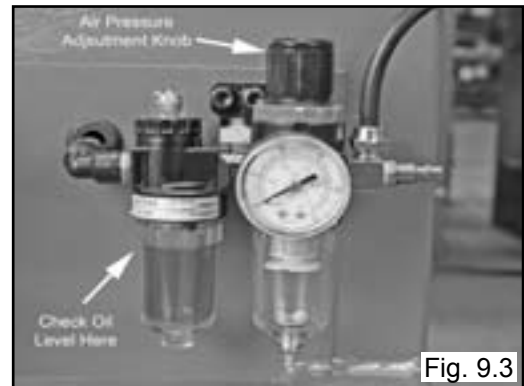

Fig. 9.3
1. Check Oil Level on Oil Cup Site Glass. (See Fig. 9.3)